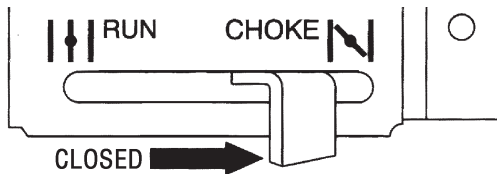

Figure 20. Engine Choke Lever (Closed)
2. Place the **choke lever** (Figure 20) in the **RUN (OPEN)** position if starting a **warm engine** or if the **temperature is warm**.